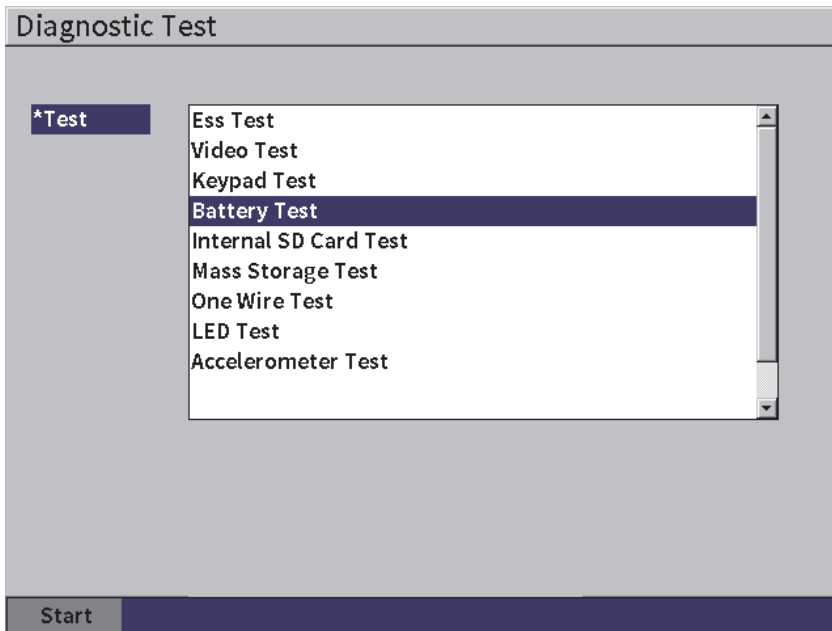

Figure 5-15 Diagnostic Test setup page
1. Select the **Diagnostic Test** icon () to open the **Diagnostic Test** setup page (see Figure 5-15 on page 58).